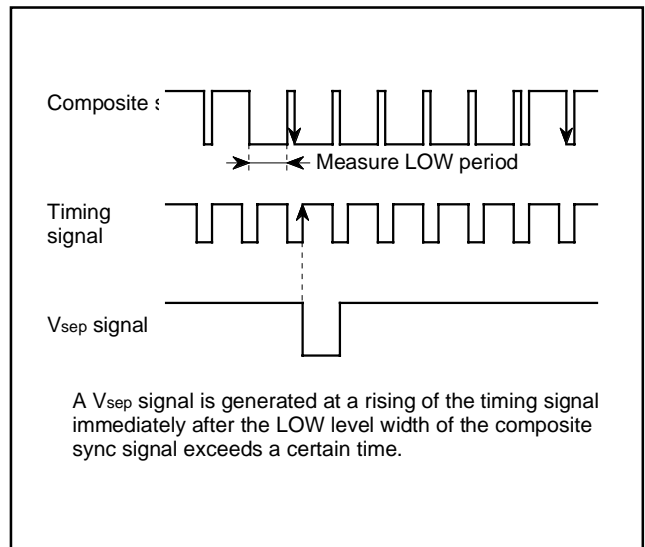

Fig. 8.10.6 Vsep Generating Timing (method 2)
- Method 2 The LOW level width of the composite sync signal is measured. If this width exceeds a certain time, it is detected whether a falling of the composite sync signal exits or not in the LOW level period of the timing signal immediately after this LOW level. If a falling exists, a Vsep signal is generated in synchronization with the rising of the timing signal (refer to Figure 8.10.6).
Figure 8.10.6 shows a Vsep generating timing. The timing signal shown in the figure is generated from the reference clock which the timing generating circuit outputs.